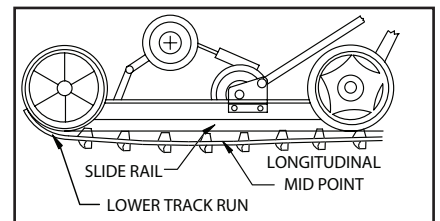
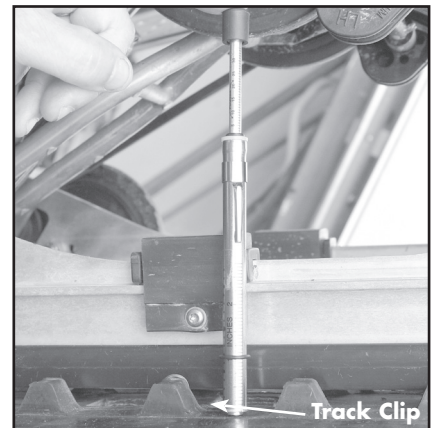

Figure 2
Figure 3
- On the inside surface of the lower track run and at the longitudinal mid-point (figure 2), place the "inches of span" end of the track tension tool adjacent the top surface of a track clip. (figure 3)